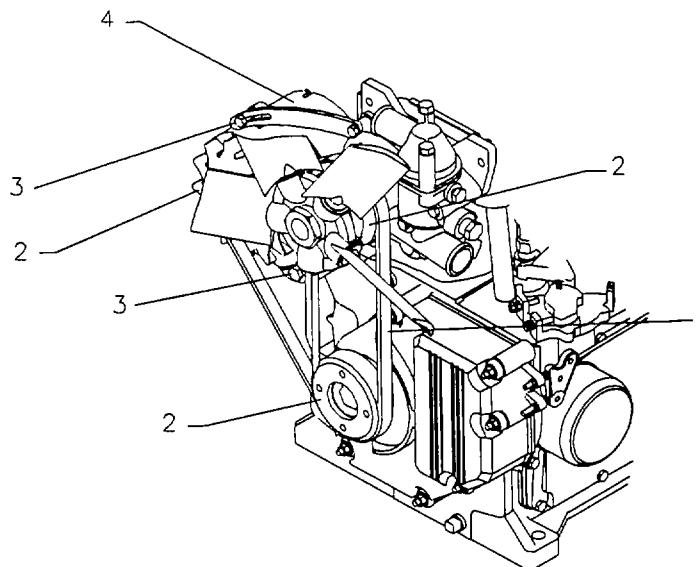

Figure 4-11. Fan Belt Replacement.
a. Removal. Refer to figure 4-11.
- 1) Loosen the alternator adjusting bolts (3) and move the alternator (4) inward to slacken the belt tension.
- 2) Remove the fan belt (1).
b. Installation. Refer to figure 4-11.